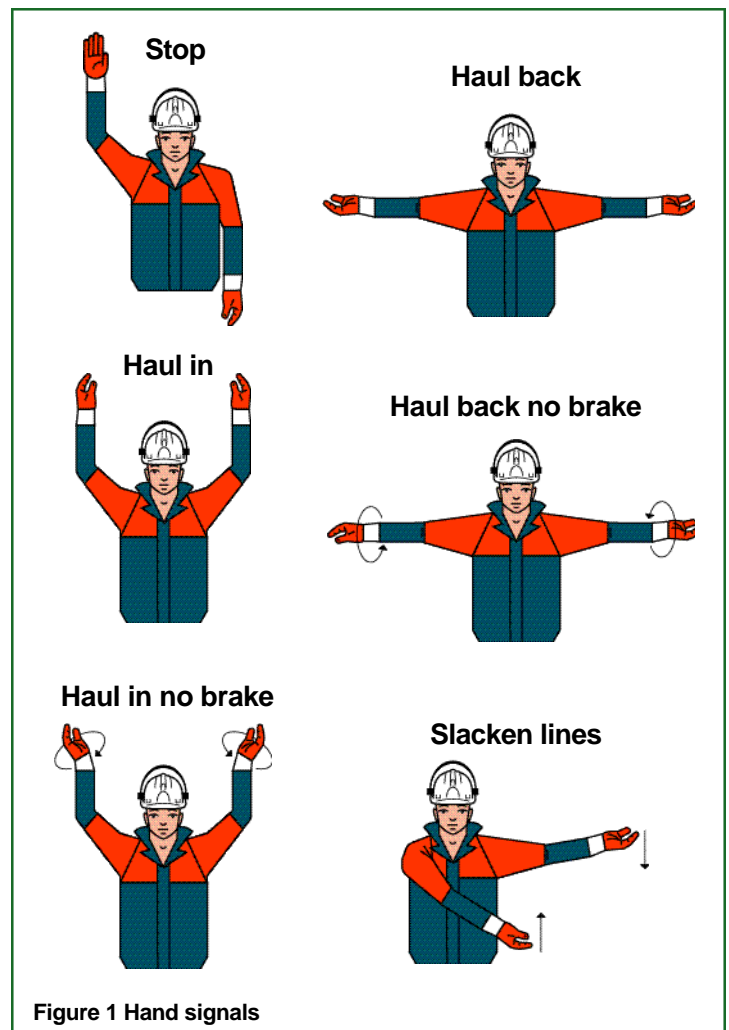

Figure 1 Hand signals
- 45 Where radio communication is not available, use only the recommended and agreed operating signals (see Figure 1).